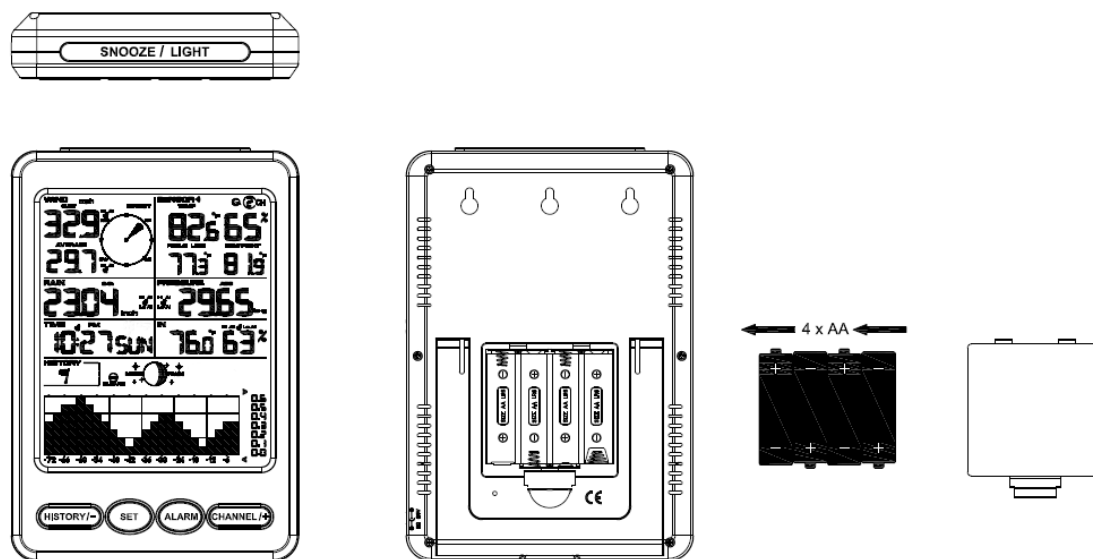

Figure 12
1. Remove the battery door on the back of the console, as shown in Figure 12.